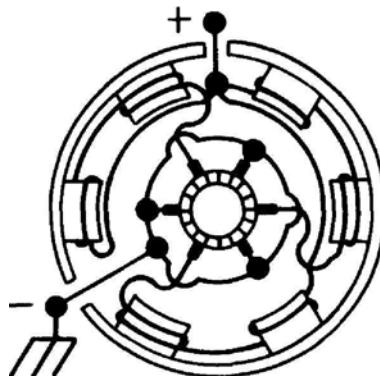

Figure 1-3. Internal Motor Circuits
- d. **Commutator End Plate Assembly.** The end plate of commutator end plate assembly (25) provides closure for that end of the starter frame and holds sleeve bearing (27) which supports the commutator end of armature (22). Brush holder assembly (28) has six brush holders and is mounted on the inner surface of the end plate but is electrically insulated from the end plate as necessary.
- e. **Brushes and Brush Holder Assemblies.** Each brush is free to move in its brush holder only in a radial direction with respect to the circumference of the commutator. A helical torsion spring (26) is used (two in 12-brush starter) at each brush holder to keep a positive contact pressure between brush and commutator. These springs and brush freedom in its holder accommodate change in brush length due to wear.
- 1) Alternate brush holders around commutator are electrically connected to provide one set of three brushes (three pairs of brushes in p/n 1109972) in common circuit. This set is connected to brush holder terminal stud (1).
- 2) Brush holder terminal stud (1) extends through but is insulated from the end plate. This stud is used for connection to the ground of the power supply as shown schematically in the diagram of internal motor circuits (fig. 1-3).